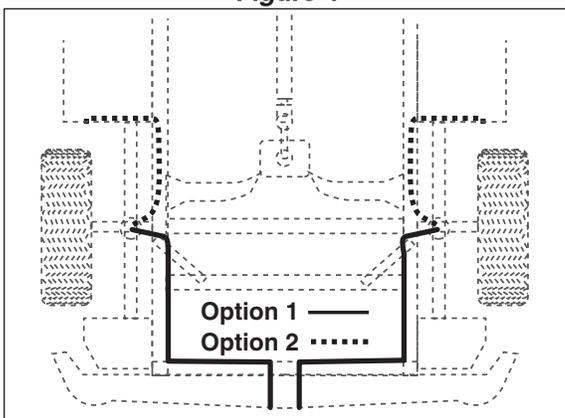

Figure 5
- Select a location for the inflation valves in the rear bumper area or rocker panel flange ensuring that each valve will be protected and accessible with an air hose (Figure 5). Drill a 5/16" hole for the inflation valve and mount as illustrated. The outer rubber washer is used as a weather seal (Figure 6).